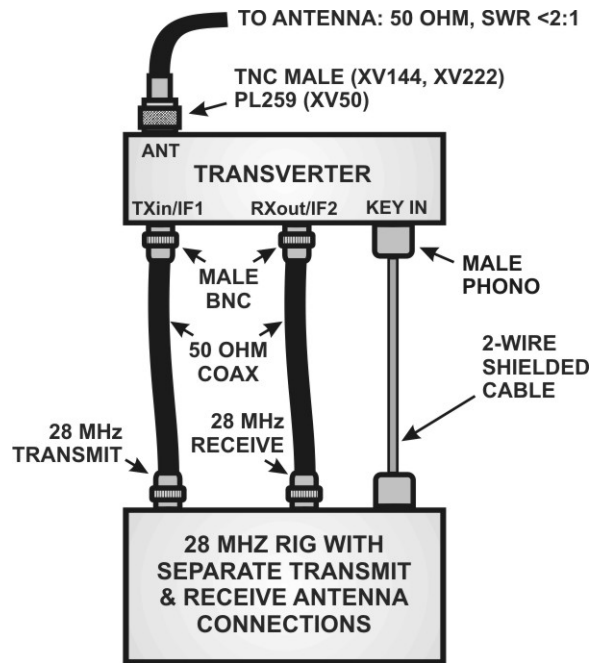

Figure 5. Connecting the Transverter to a Non-Elecraft 28-MHz Rig with Separate Transmit and Receive RF Paths.
- Connect the cables as shown in Figure 5.